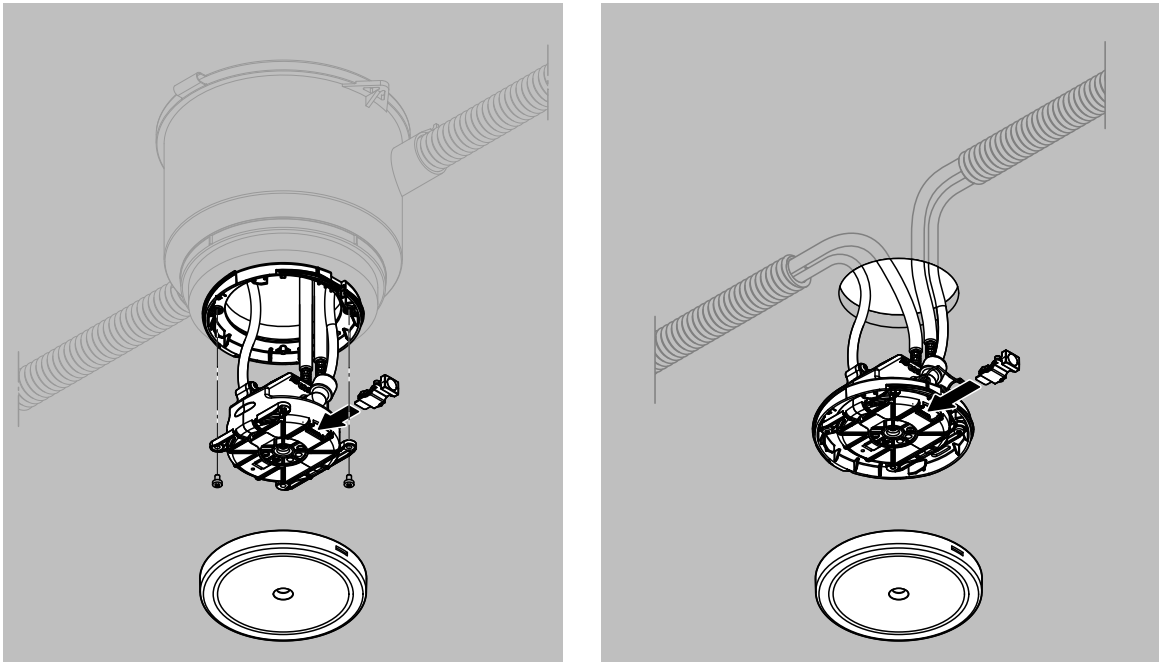

Fig. 76: Replacing the humidity sensor (screwed version on the left, pluggable version on the right)
3. Loosen the two screws (screwed version only, see Fig. 76 left).